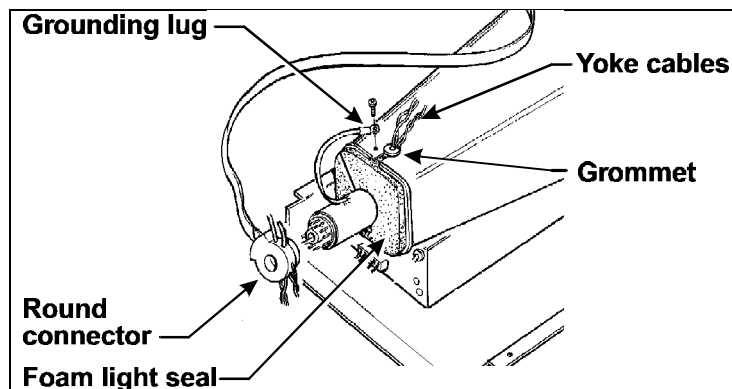

Figure 5-15. Disconnecting the CRT
4. Disconnect the round connector from the end of the CRT and remove the sheet-metal screw securing the Mu-metal grounding lug (Figure 5-15).
5. Remove the foam light seal (Figure 5-15) by sliding it off the end of the CRT tube.
6. Disconnect the yoke cables passing through the Mu-metal shield grommet (Figure 5-15) at their connectors on the analog board, then slide the grommet out of the Mu-metal shield.